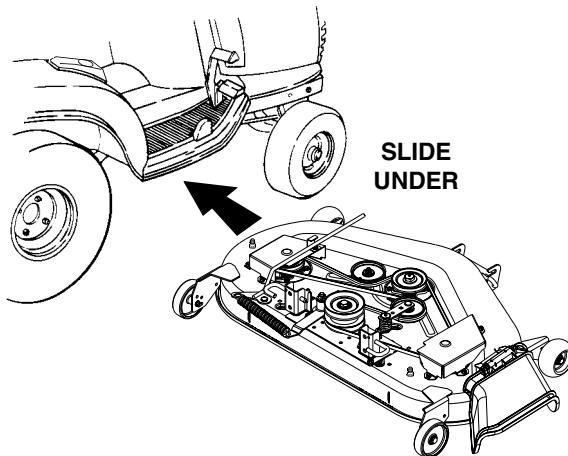

Figure 42
- Refer to Figure 42 and position the deck on the right side of the tractor with the front of the deck facing toward the front of the tractor. Raise the tractor implement lift handle to its highest setting and slide the deck under the tractor.